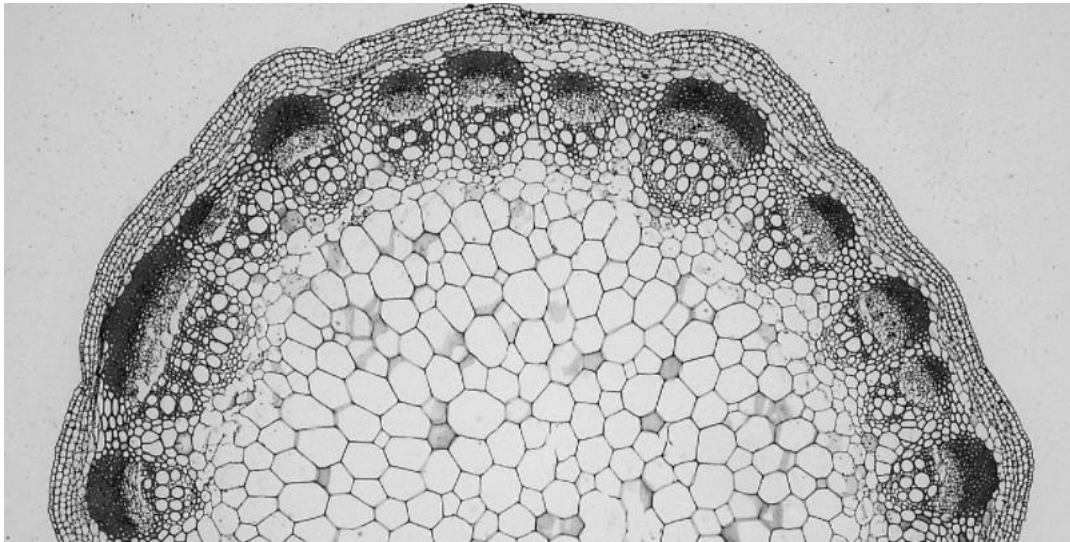

Fig. 3.1
Fig. 3.1 is a photomicrograph of the stem cross-section of a tomato plant while Fig. 3.2 is a photomicrograph of the stem cross-section of another species of plant.
- (f) Using a suitable form, distinguish between the stem structures shown in Fig 3.1 and Fig 3.2.